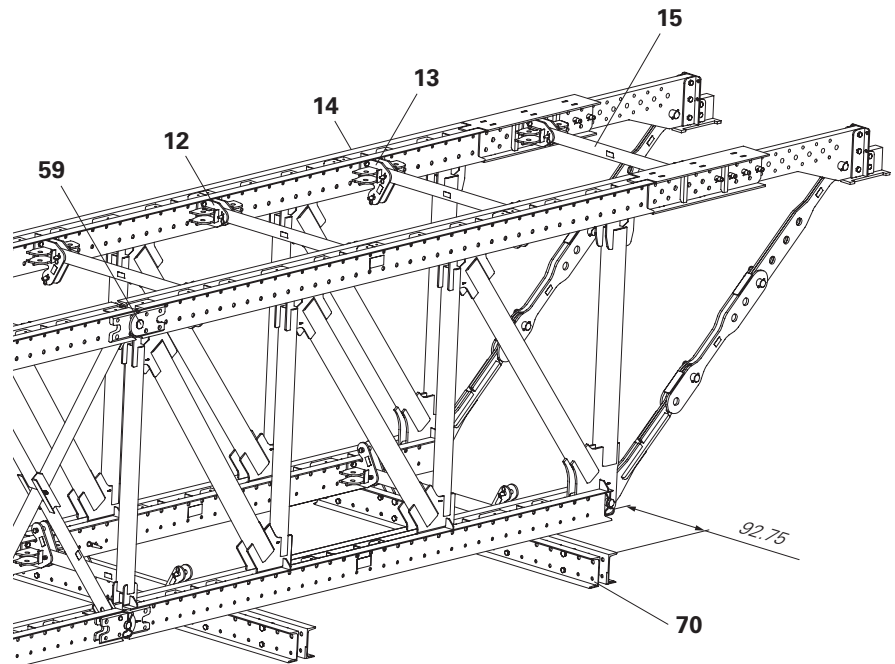

Fig. G3.05
- Position climbing rails (70) on the dismantling area. Ensure that each frame element is supported by at least one climbing rail. (Fig. G3.05)
- Fit the cross connector (71) at a distance of 92.75 cm from the edge of the climbing rail.
- Fit additional cross connectors on the climbing rails at the same spacing as the bracing posts (15).